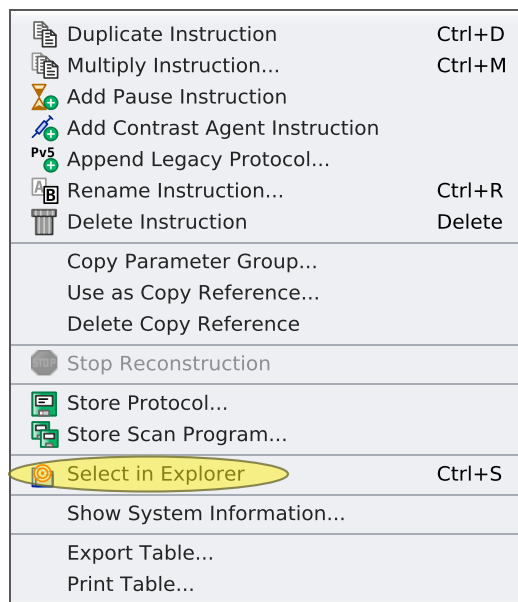

Figure 1.33: Context Menu Examination Card
2. Open the context menu (see [Figure 1.33 \[p. 53\]](#)) and invoke **Select in Explorer** or type <Ctrl>+<S> on the keyboard.